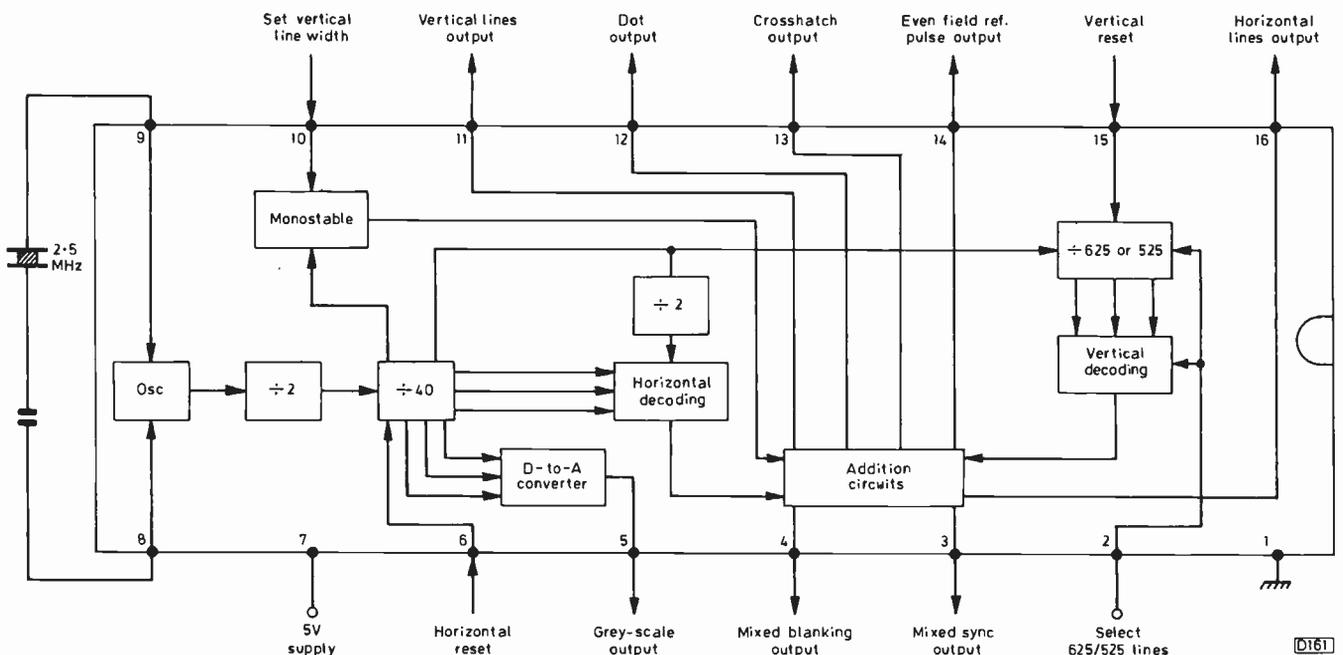

Fig. 1: Block diagram of the Ferranti ZNA234E TV pattern generator i.c.
The heart of the unit is a chip from the Ferranti ULA (Uncommitted Logic Array) range. We've used another device from this range in previous designs – the sync pulse generator i.c. ZNA134. This time Ferranti has produced an i.c. (the ZNA234E) which makes available all the necessary waveforms to produce crosshatch, dot, vertical lines, horizontal lines and greyscale test patterns on a TV screen. The block diagram of the device is shown in Fig. 1. All that is required is a 2.5MHz crystal and a minimum of external components for mixing the video, sync and blanking pulses to give a composite video signal. The device is contained in a 16-pin DIL plastic package.
p.c.b. was designed to accept the circuit in Fig. 1. Apart from the five patterns generated by IC4, blank raster and white raster are also offered; the former by taking the base of Tr1 to ground and the latter by taking it to +5V via R3. Resistors R4, R5 and R6 increase the edge speeds of patterns containing short-duration pulse components.